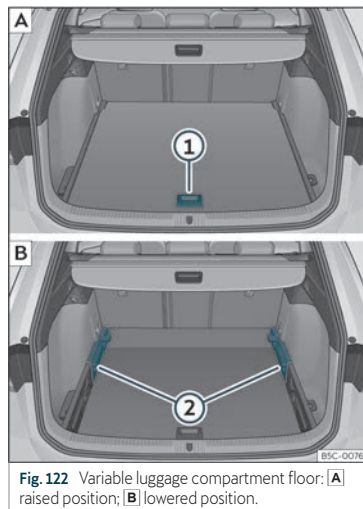

Fig. 122 Variable luggage compartment floor: **A** raised position; **B** lowered position.
- To move from the low position to the high position, lift the floor using the handle »» **Fig. 122** **1**, and pull it back until the front of the floor has fully passed the supports »» **Fig. 122** **2**.
- To move from the high position to the low position, lift the floor using the handle »» **Fig. 122** **1**, and pull it back until the front of the floor has fully passed the supports »» **Fig. 122** **2**.
- Lift the variable floor in the high position using handle»» Fig. 122 ①, pull it up and push it towards the backrest of the rear seats until it folds along the hinge line and the movable part of the floor is resting on itself.